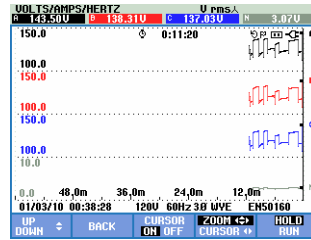

Figure 22-6. Trend display with cursor and zoom on
- Press F4 to assign the arrow keys to Zoom operation. The left/right arrow keys can be used now to stretch and shrink the trends horizontally as shown in figure 22.6. The up/down arrow keys do this in vertical direction. If the Cursor is on, horizontal zoom operates symmetrically around the Cursor; when off horizontal zoom operates from the right screen side.